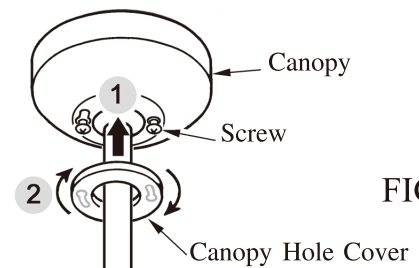

FIG.9
5. Place the canopy hole cover over the screws and twist the cover to tighten. (See fig.9)